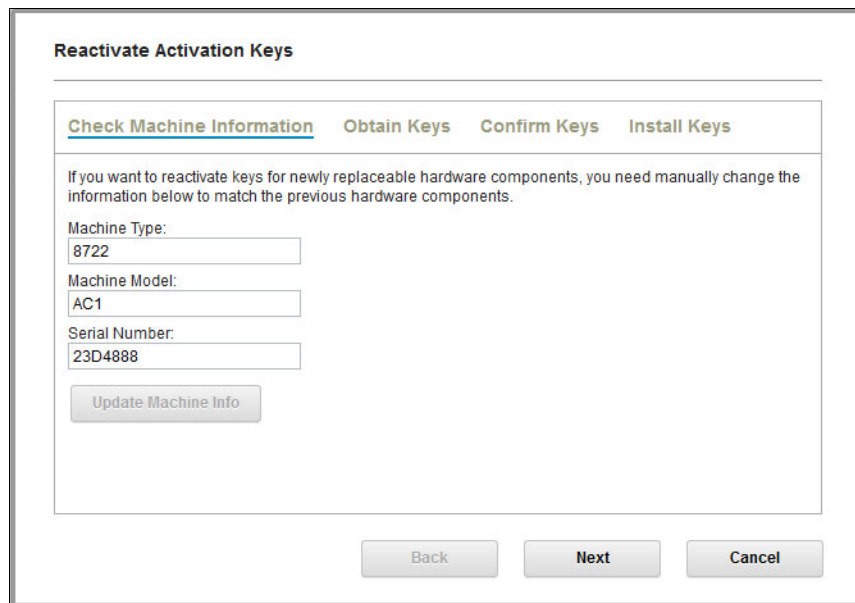

Figure 5-21 Enter machine information
2. Enter the previous machines's VPD (machine type and serial number) into the appropriate fields, as shown in Figure 5-21.